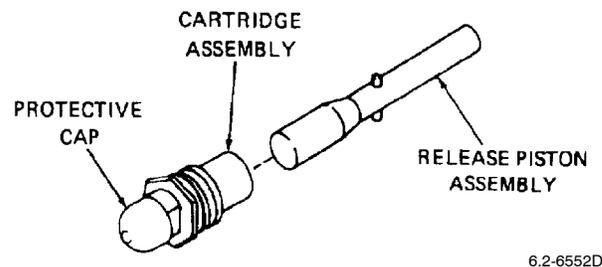

Figure 9. Trial Fit Large End of Release Piston
j. Trial fit large end of release piston into cartridge. Release piston shall fit freely into cartridge (Figure 9).